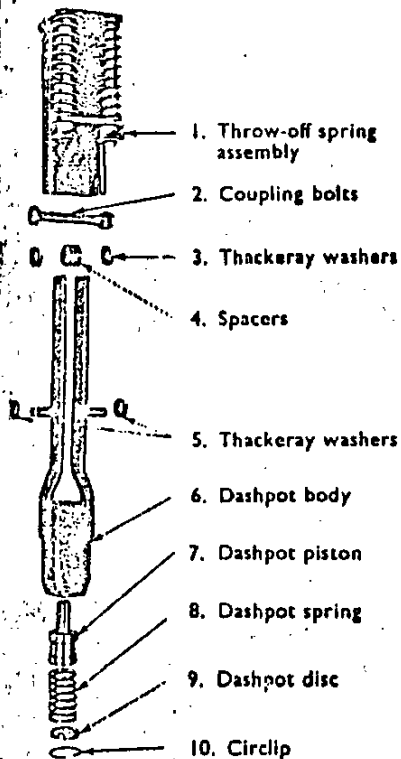

Fig. 6 Expanded view of dashpot and throw-off spring assembly
- Fig. 6 Expanded view of throw-off spring assembly